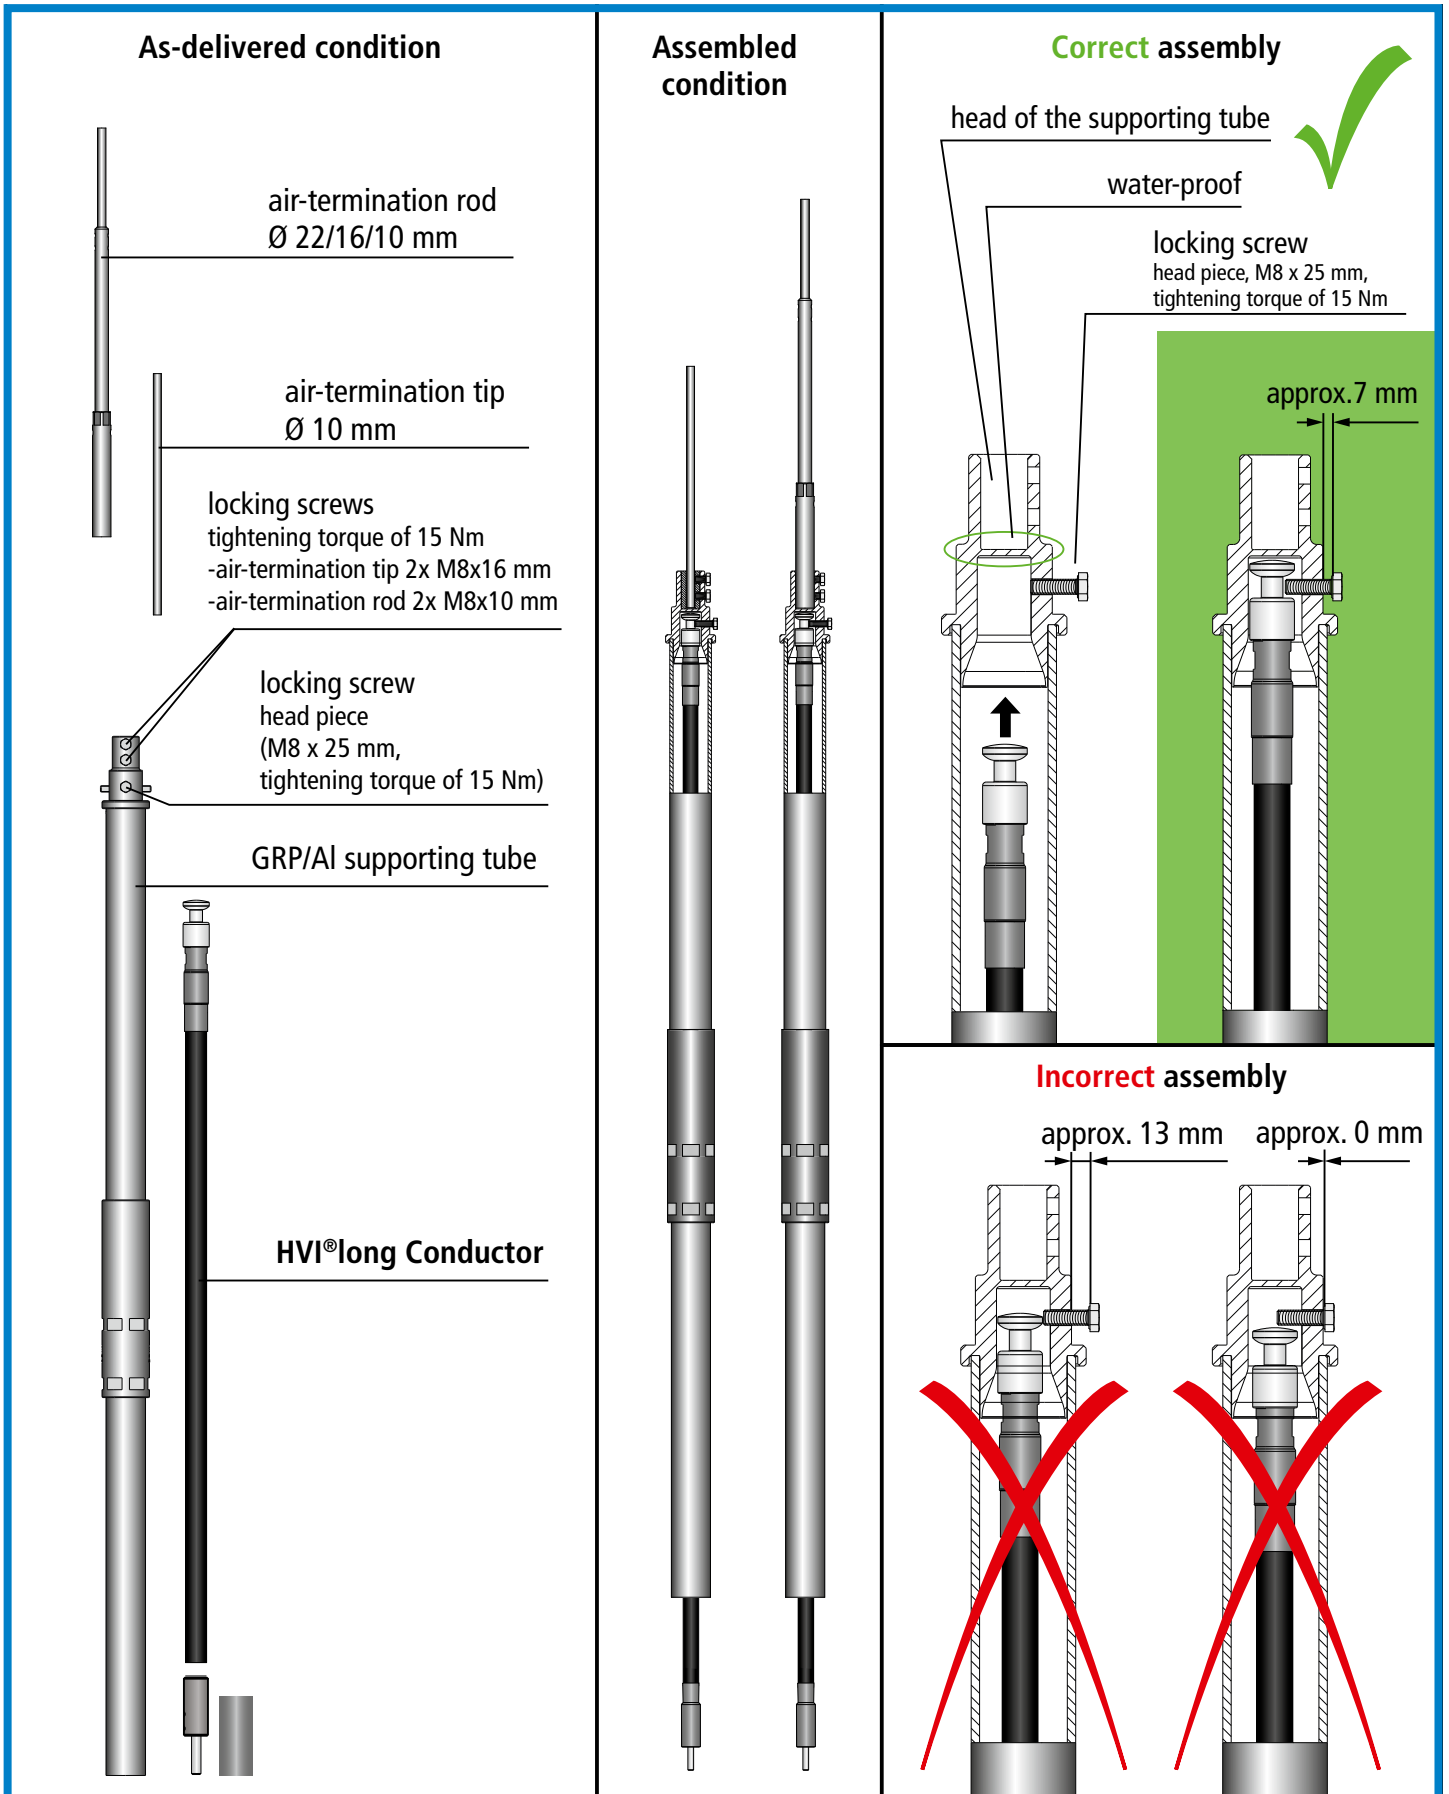

Figure 4 Installation of the head piece in the supporting tube
Before installing the supporting tube, insert and fix the head piece of the pre-assembled **HVI®long Conductor** into the supporting tube (see also Fig. 4, page 11).
- ➔ Check whether the **HVI®long Conductor** is properly fixed in the supporting tube (see Fig. 4). Proper installation can be verified by slightly pulling the conductor at the point where the conductor leaves the supporting tube.
- The locking screw on the side of the head of the supporting tube for the head piece of the **HVI®long Conductor** must be completely tightened (see also Figure 4, page 11). Installation may not be possible if the screw protrudes too far from the head of the supporting tube.